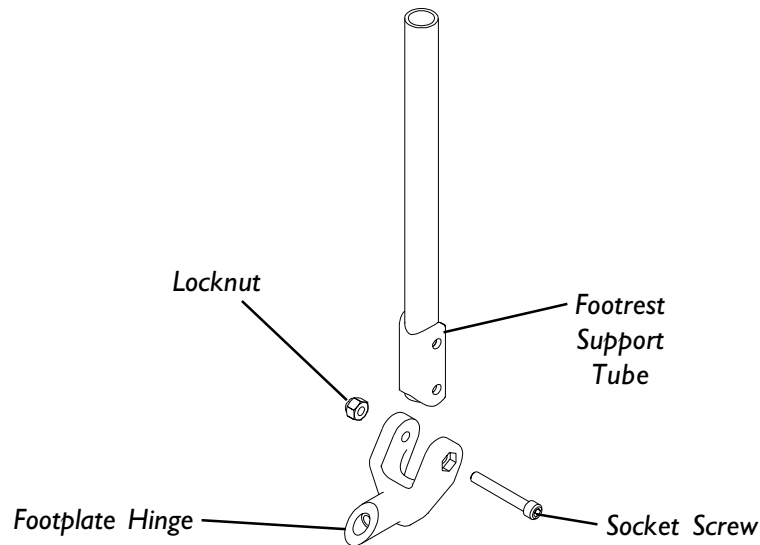

FIGURE 9 - INSTALLING ADJUSTABLE ANGLE FLIP-UP FOOTPLATE HINGE
INSTALLING ADJUSTABLE ANGLE FLIP-UP FOOTPLATE HINGE (FIGURE 9)
2. Position the hardware on the footrest support as shown in FIGURE 9.